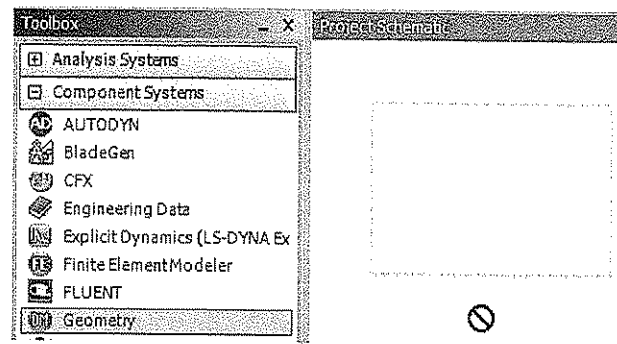

Figure 5-3 Prospective location for adding component system
- 3. In the **Workbench** window, expand the **Component Systems** toolbox in the **Toolbox** window and drag the **Geometry** component system to the **Project Schematic** window; a green colored rectangular boundary will be displayed, refer to Figure 5-3.